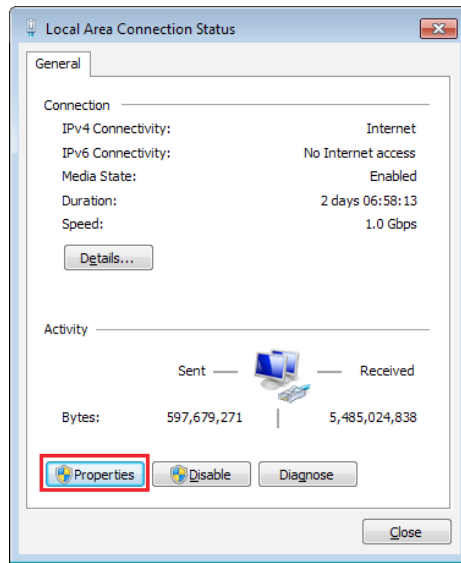

Figure 9: Local Area Connection Status
3. In the *Local Area Connection Status* window (**Figure 9**), click on **Properties**.